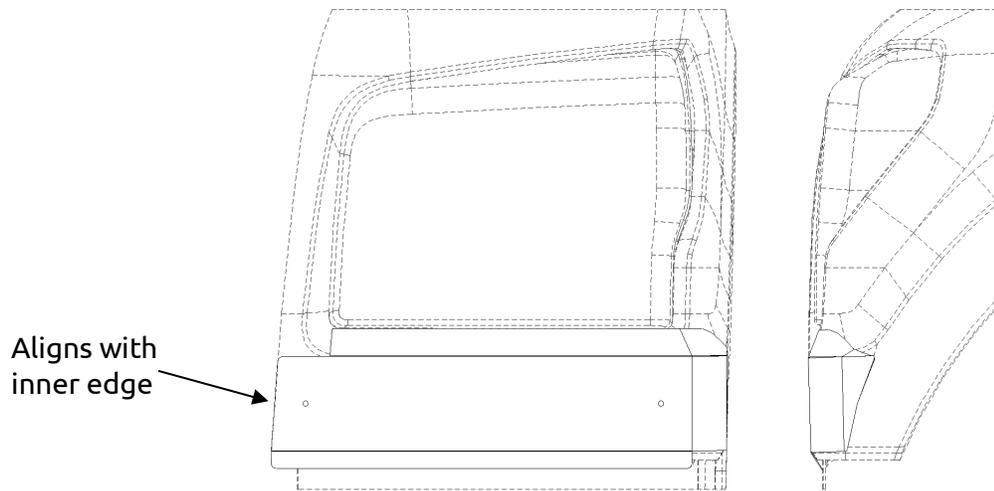

Fig. 2
- a. Inner edge of the part should be aligned with the profile of truck, see Figure 2.